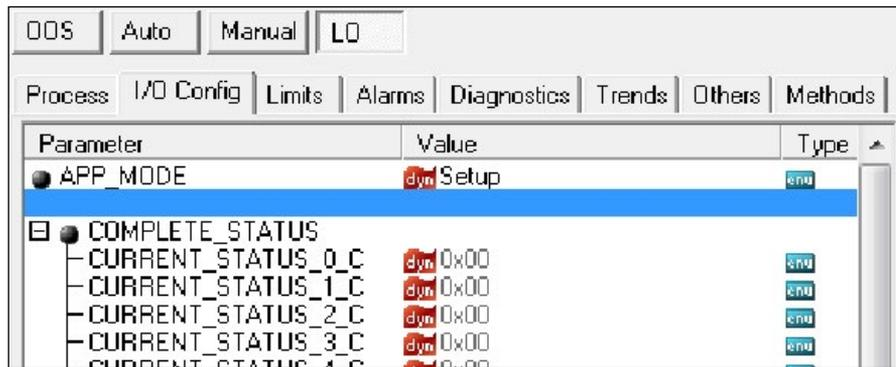

Figure 109 - 86.APP_MODE Parameter
4. Observe the state of the display/position control by reading *86.APP_MODE* parameter – it should have a value of *Setup* (Figure 109).